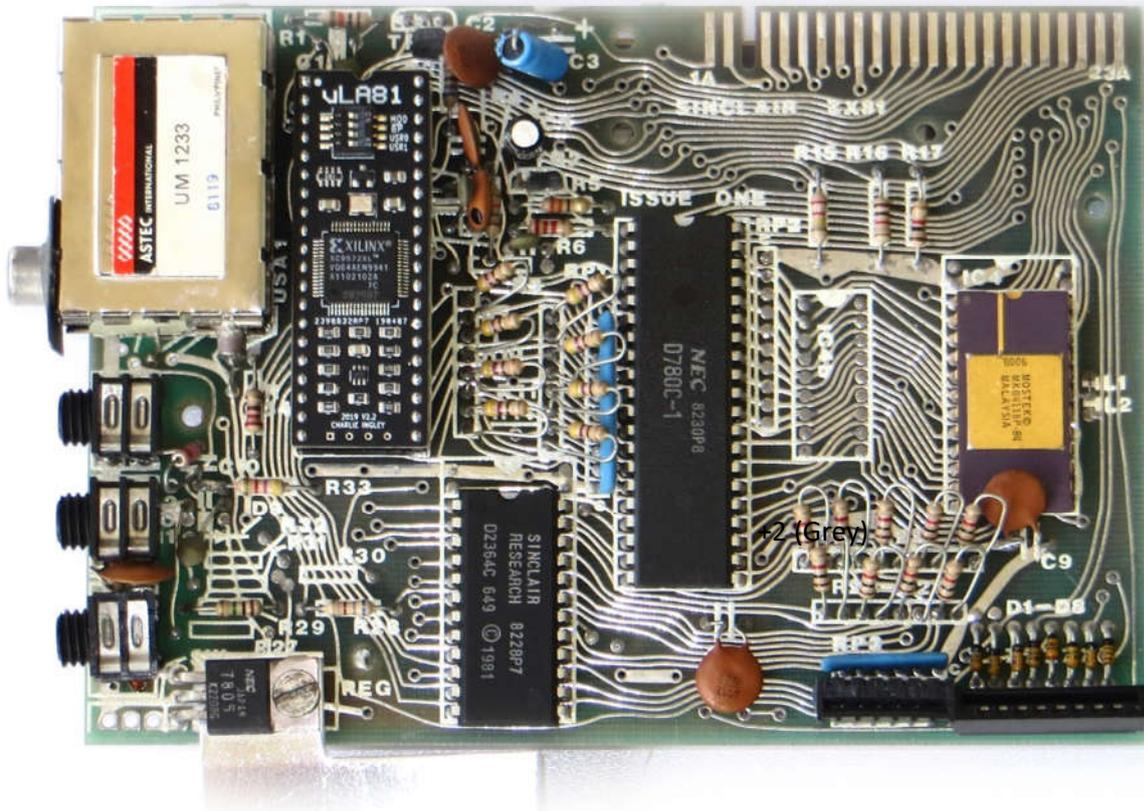

Fig.1 – vLA81 installed
5. Remove the vLA81 from the plastic antistatic shipping bag and orient correctly with pin 1 closest to the rear of the ZX81 PCB. Please refer to Fig.1 above.